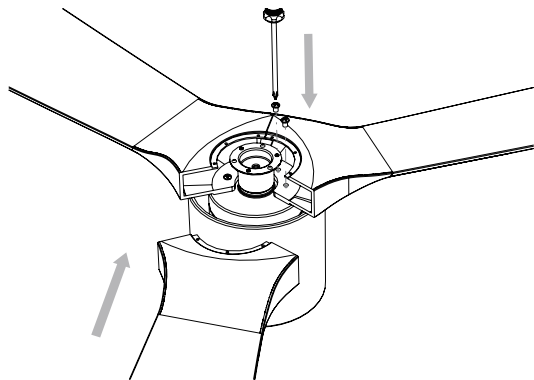

FIGURE 6
1. Place blade on motor as shown in Fig. 6 and secure with the blade attachment screws and washers.
2. Repeat this procedure with the remaining blades (Fig. 6).